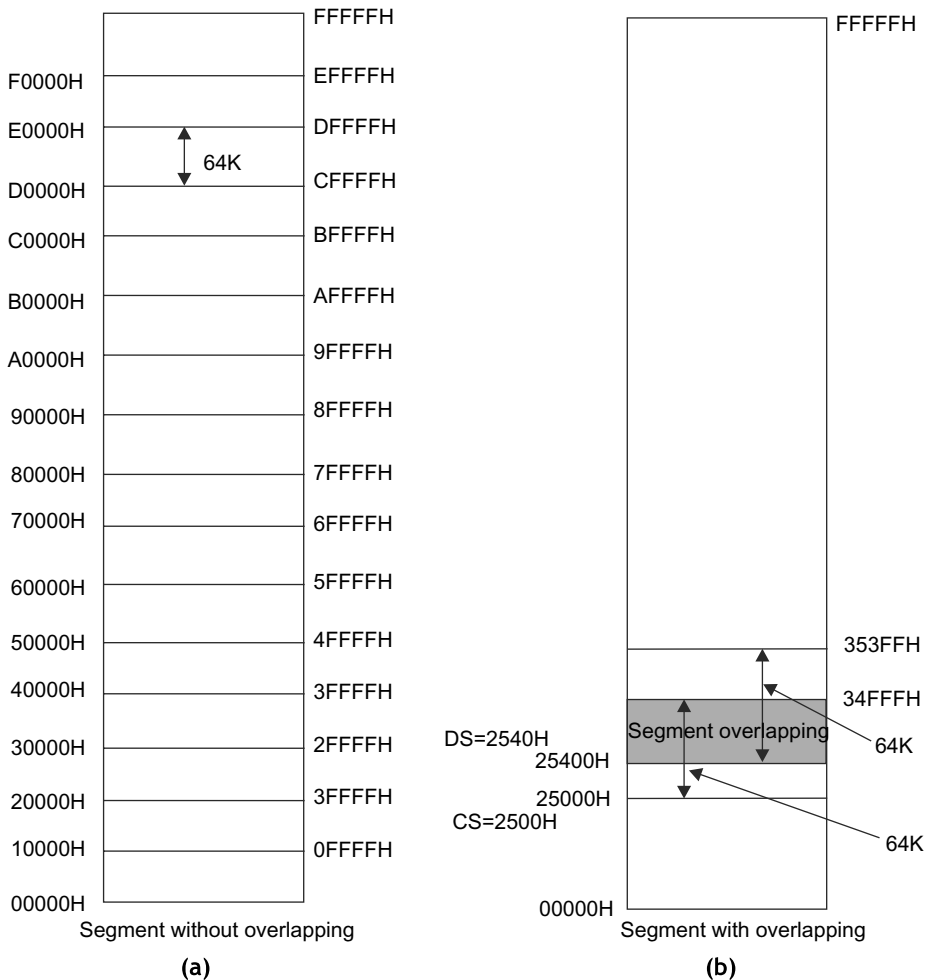

Fig. 5.8 (a) Segment memory without overlapping (b) Segment memory without overlapping
Figure 5.8(a) shows the segment memory of an 8086 microprocessor. The address of 1st segment memory is 00000H to 0FFFFH. For these addresses, the content of segment register is 0000H and the offset address, i.e., the content of Instruction Pointer (IP) varies from 0000H to FFFFH. The physical address of memory is computed from
Similarly, the data segment DS and content of IP can address the memory segment address starting from $25400H$ to $25400H + FFFFFH = 353FFH$ as depicted in Fig. 5.8(b). It is clear from Fig. 5.8(b) that some portion of the segments are overlapping and this overlapping portion of the segment memory is called an *overlapped segment area*. The address locations of overlapping may be located from different sets of segments